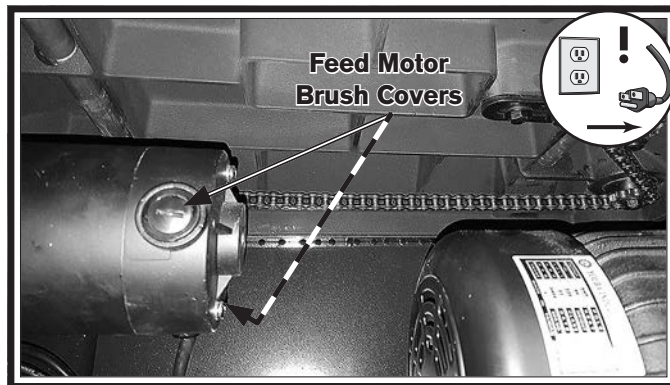

Figure 61. Feed motor brush location.
3. Remove DC motor brush cover, then pull out used motor brush (see **Figure 61**).